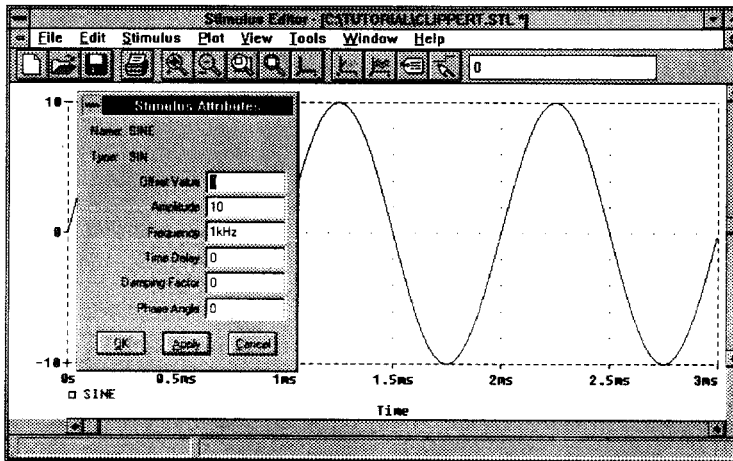

Figure 2-12 *Stimulus Editor Window*
- 14 Click on Apply to view the waveform. The Stimulus Editor window should look like Figure 2-12.